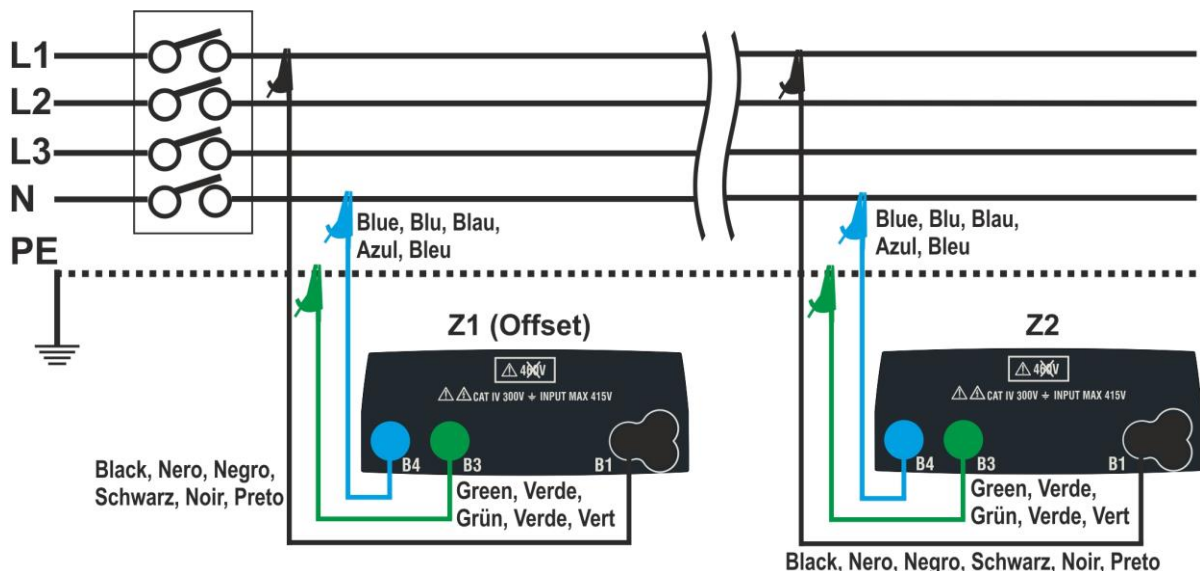
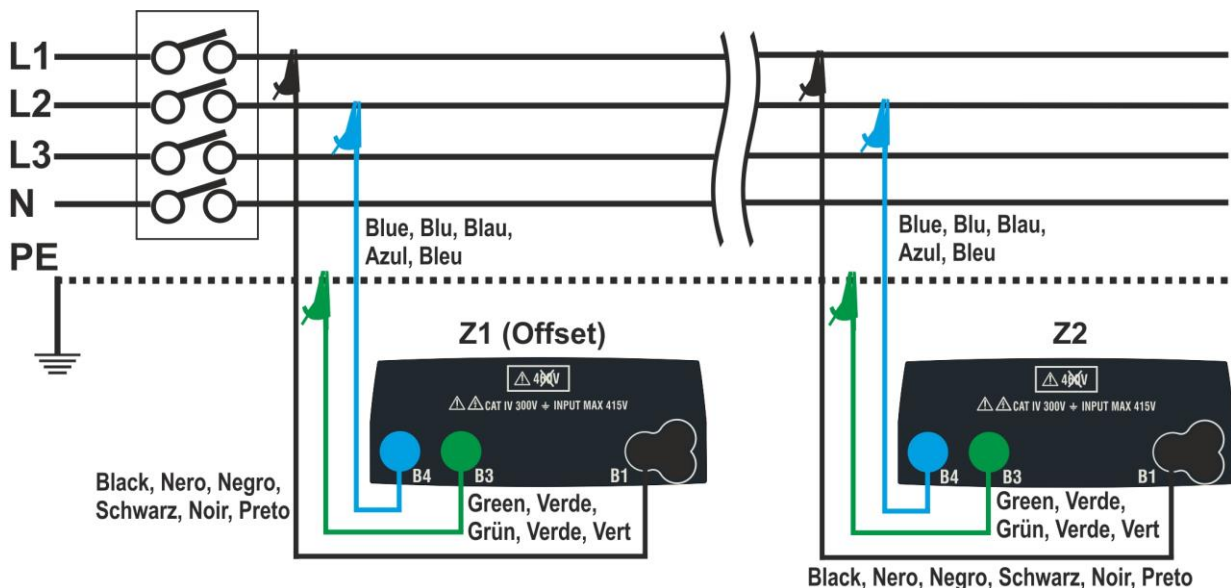

Fig. 37: Connection of the instrument for L-N mode voltage drop measurement
Fig. 38: Connection of the instrument for L-L mode voltage drop measurement
- Connect the instrument to the initial point of the mains being tested (typically downstream of a protection device) according to Fig. 37 or Fig. 38 in order to carry out the first **Z1 (Offset)** impedance measurement. In this case, the instrument will measure the impedance upstream of the initial point of the mains being tested, taking it as starting reference. The following screen (referred to L-L measurement) appears on the display.
7. Connect the instrument to the final point of the mains being tested according to Fig. 37 or Fig. 38 in order to measure the **Z2** impedance at the end of the line. Note the previously measured Z1 (Offset) value displayed.